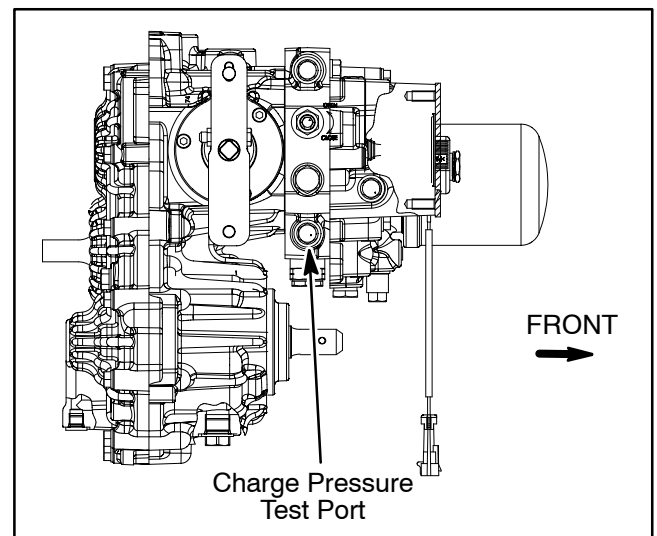

Figure 15
5. Thoroughly clean transmission area surrounding charge pressure test port on right side of transmission (Fig. 15).
6. Remove plug from charge pressure test port (Fig. 15). Connect hydraulic pressure gauge (1000 PSI / 70 bar) with an attached hydraulic hose to the transmission charge pressure port.